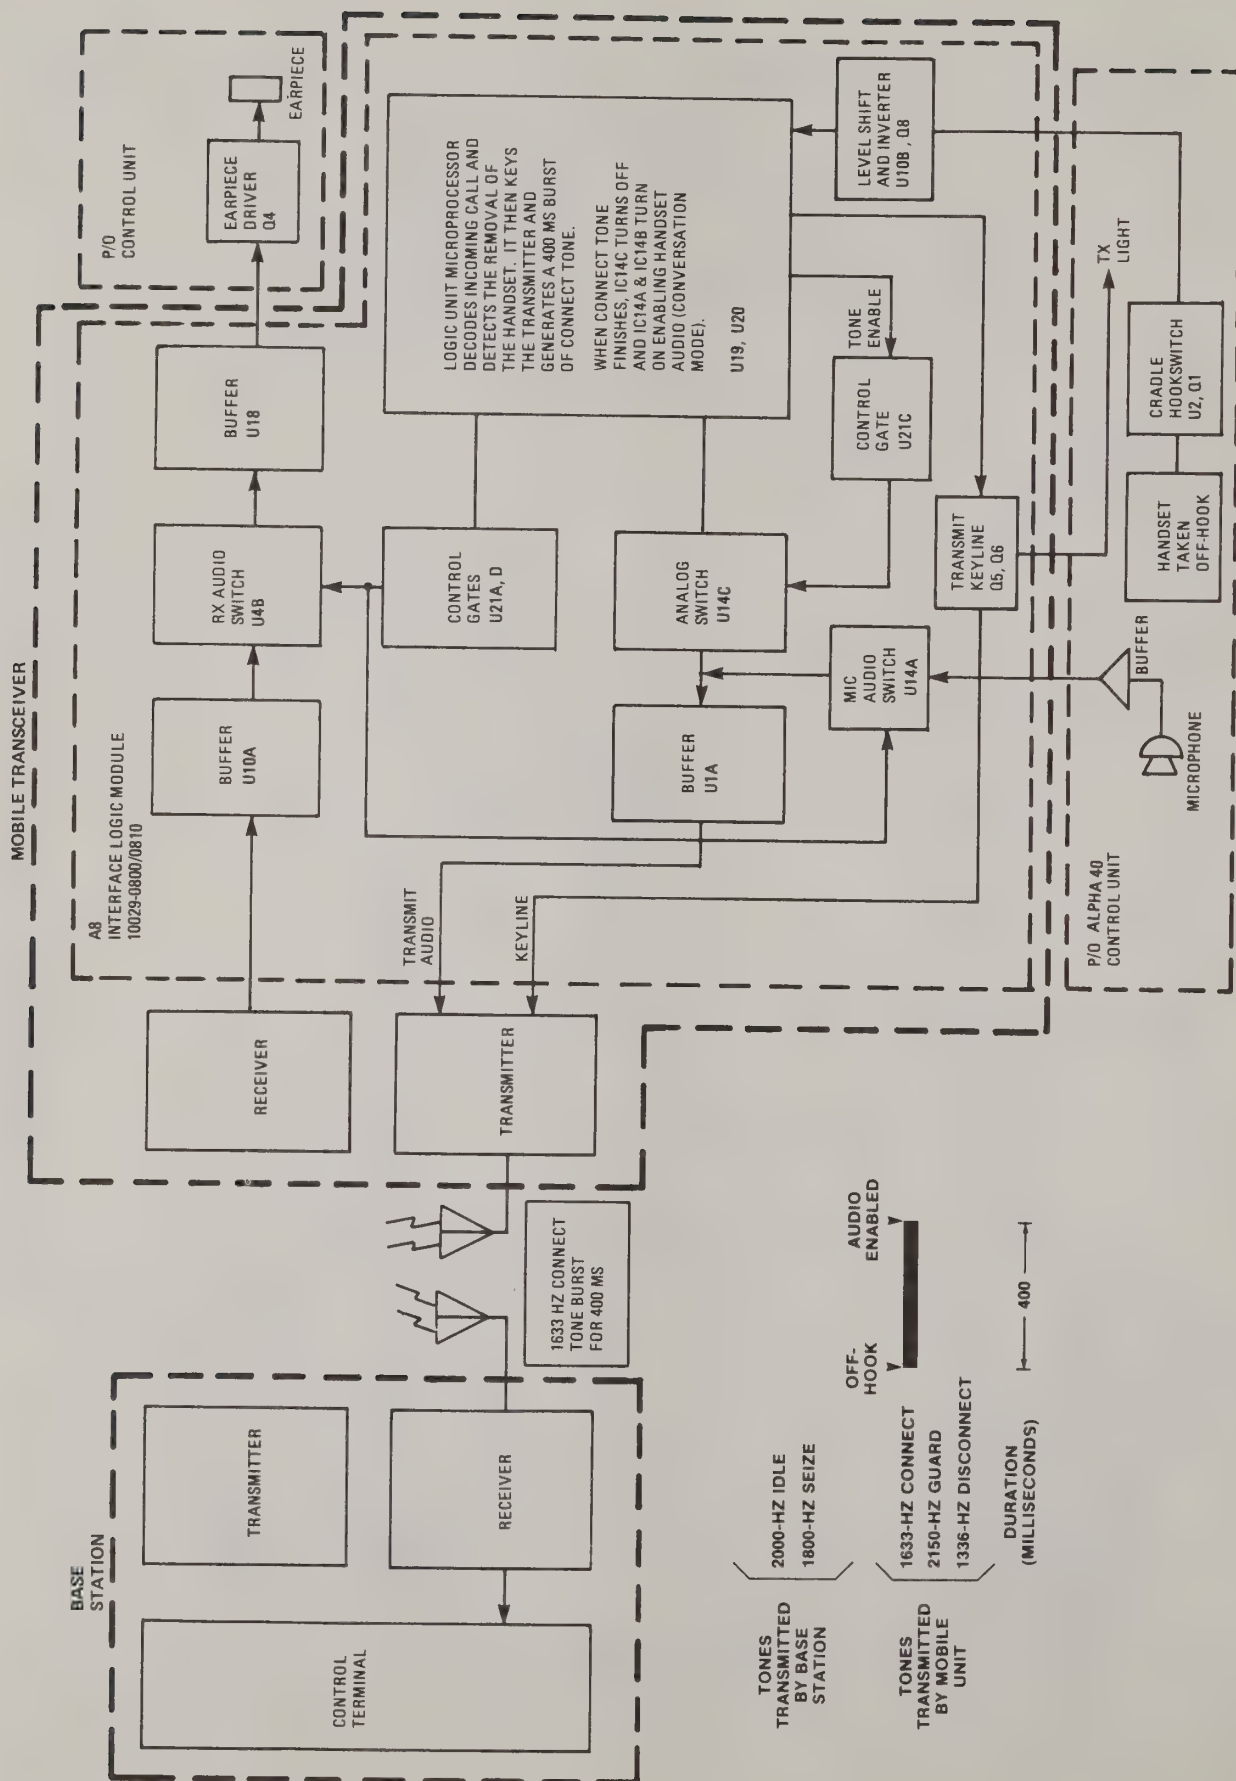

Figure 8. Functional Block Diagram, IMTS Mode, Landline-to-Mobile Call Sequence, Connect
- (4) Connect mode. (Figure 8)